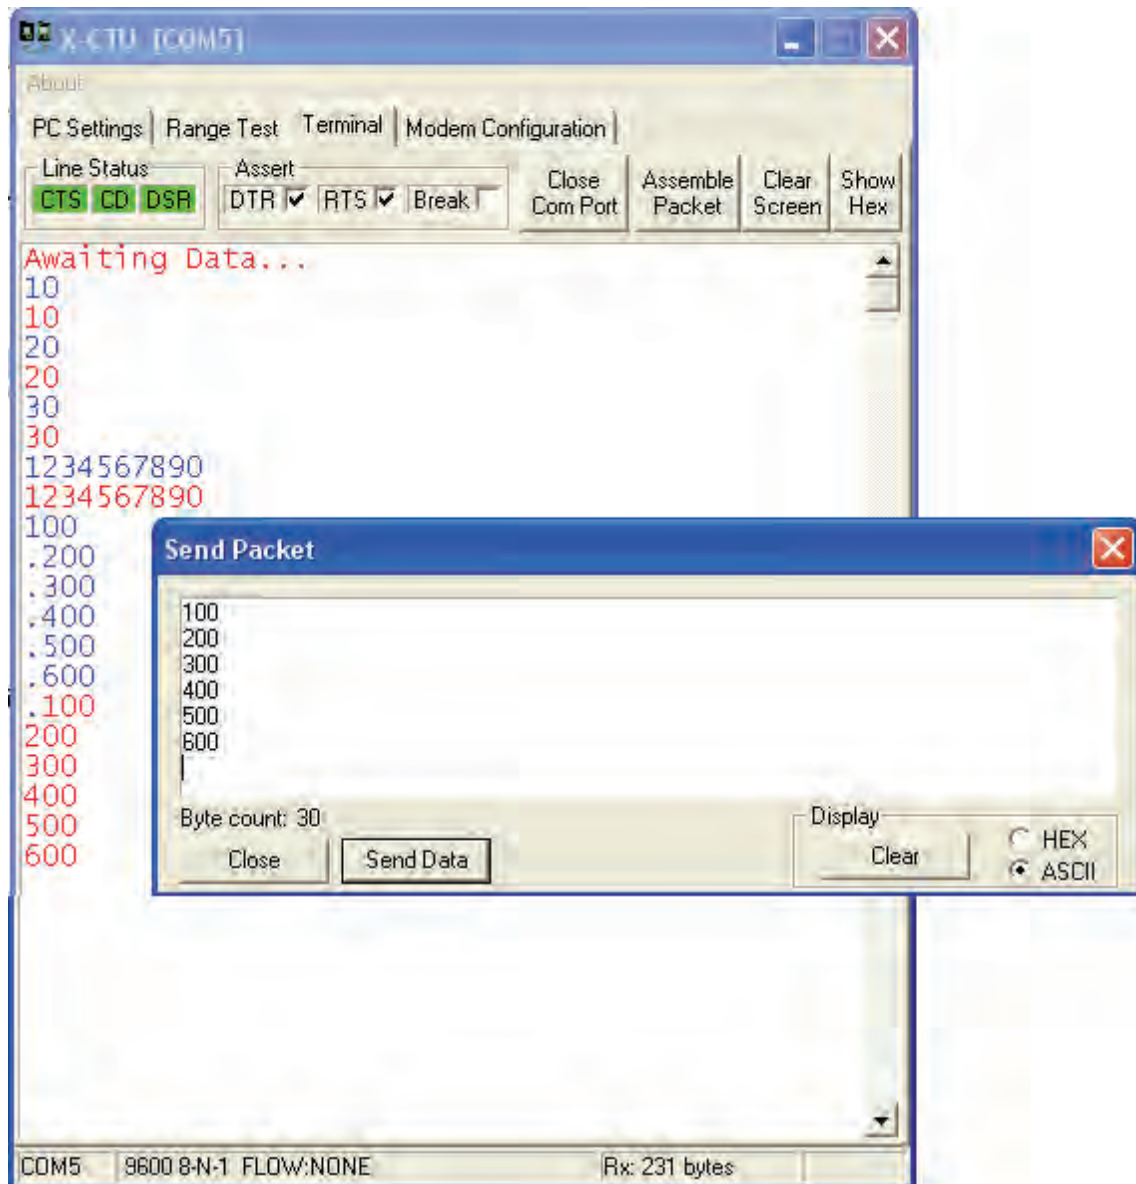

Figure 4-13: Receiving Simple Decimal Values
- ✓ Use the Send Packet window using carriage returns between values as shown in Figure 4-13. Note that no data is lost, due to the speed of the Propeller and the buffering of the drivers.